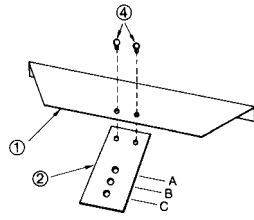

Fig. 2
4. Using the  $\frac{1}{4}$ "-20 thread cutting screw (3) furnished with the kit, mount the water heater top support bracket (2) to the top of the water heater by inserting the screw (3) through the bracket (2) into the top center of the water heater. The water heater top support bracket (2) has three holes designated "A," "B," and "C." See Figure 2 and refer to the selection chart below to position the different water heater diameters to the correct hole in the bracket (2). Tighten the screw securely.
5. Position, and temporarily support, the water heater between the two wall support brackets (1). Position the water heater top support bracket (2) between the upper wall support bracket (1) and the top of the water heater.